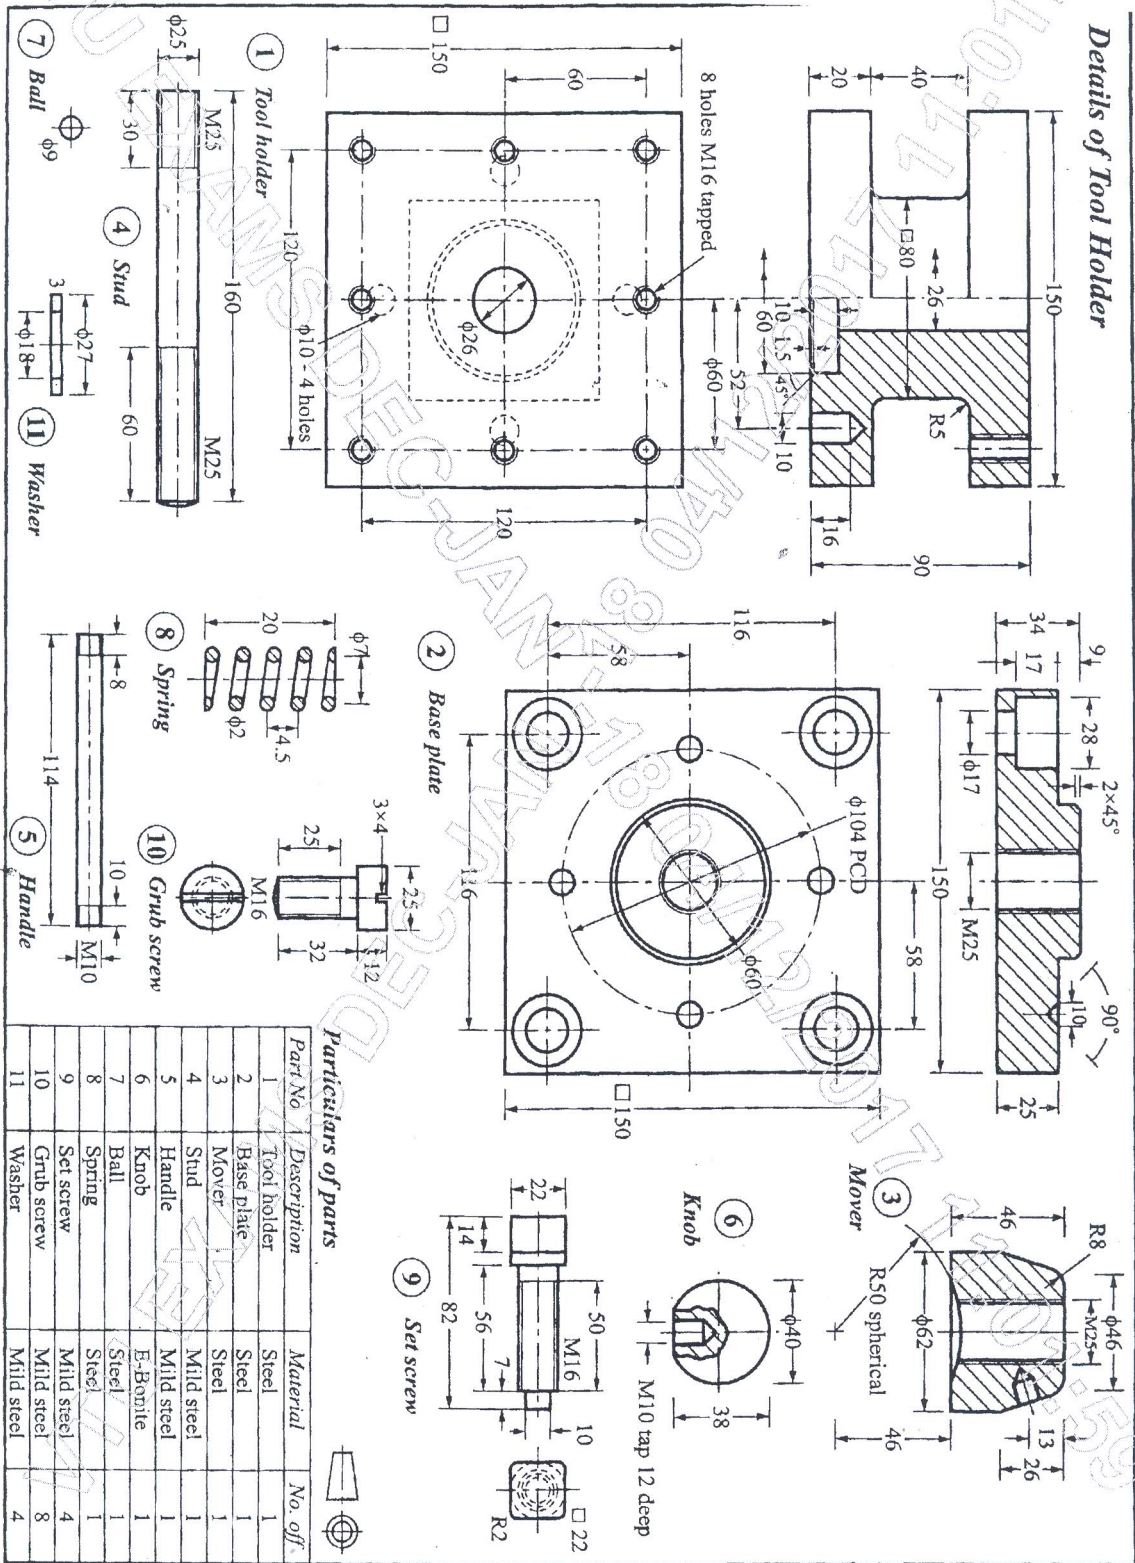

Figure 1. "SQUARE TOOL POST"
- Q.No.5** Details of "SQUARE TOOL POST" is shown in following figure 1. Assemble the parts and draw the following views.